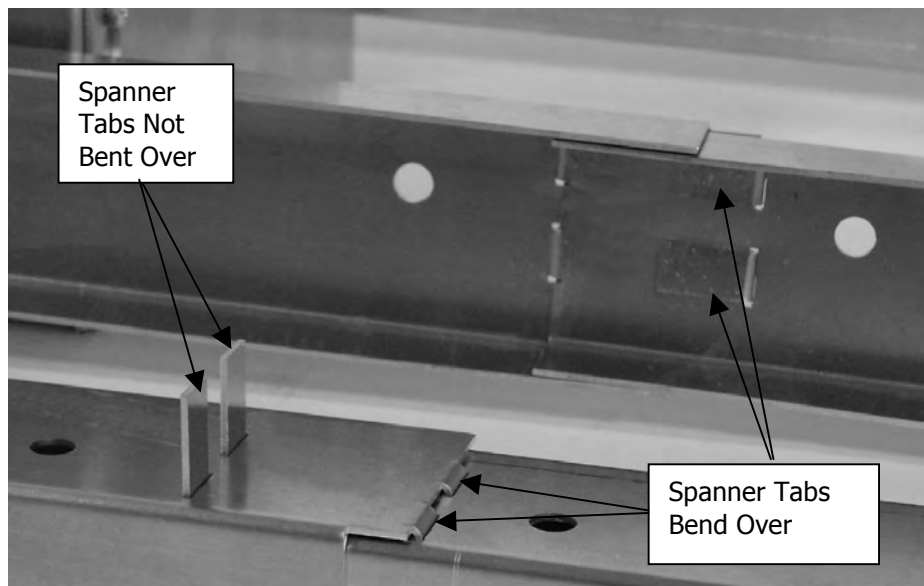

Figure 3: Bending Spanner Tabs Over
6. Bend the tabs over flat to the surface of adjacent rail. See Figure 3.